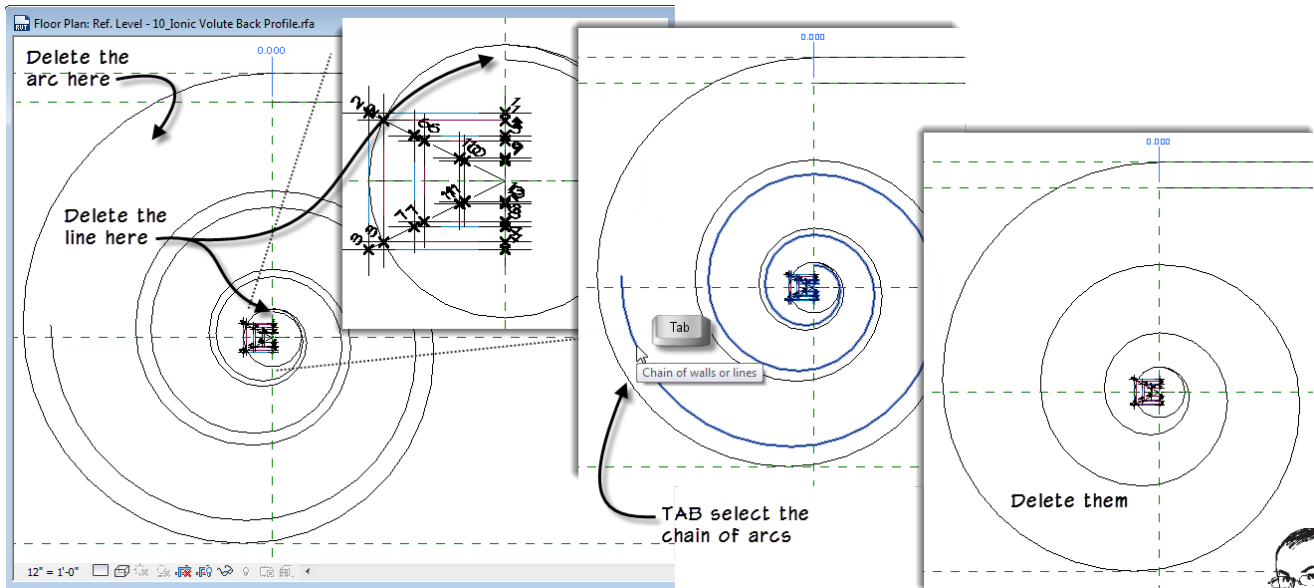

FIGURE 16—DELETE THE UNNEEDED LINES
⇒ Zoom back out and delete arc 1 for the inner edge (see the left side of Figure 16).
- ⇒ Delete this chain of arcs (see the right side of Figure 16).